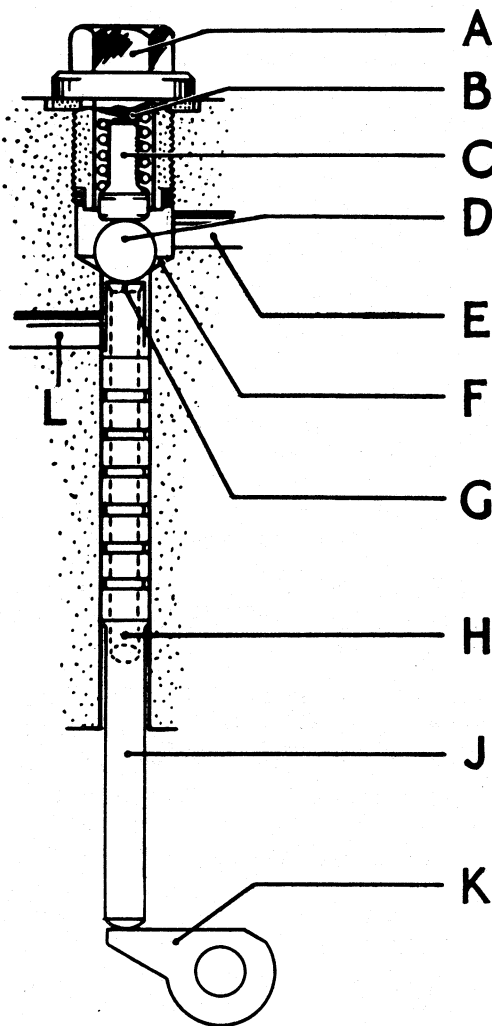
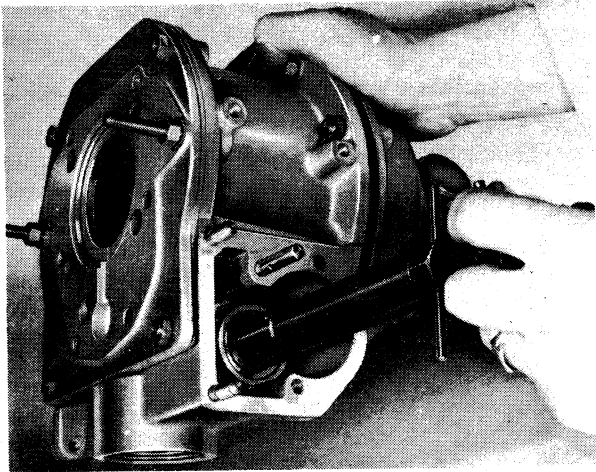

Fig. 9
Fig. 14 Extracting the Piston Housing.
The operating valve chamber (Fig. 9) is an enlargement at the top of a vertical hole in the overdrive casing. It is sealed with a screwed plug (A) and contains a spring (B) and plunger (C), which hold a steel ball (D) downwards against a seating (F), to prevent oil from circulating to the operating cylinders. The valve (J) is a hollow spindle sliding in the hole with a conical seating (G) for the steel ball in the top end. When the valve is lifted by the cam lever (K) it seats against the ball which is then lifted, admitting oil from the pressure accumulator via the drilled passage (E) to the passage (L) and into the operating cylinders, moving the pistons forward to engage the cone clutch.
To use the extractor, first remove the operating valve plug "A" (Fig 9) to admit air to the rear of the housing, insert the nose of the extractor as far as it will go into the bore of the housing, tighten the tommy bar and pull (Fig. 14).